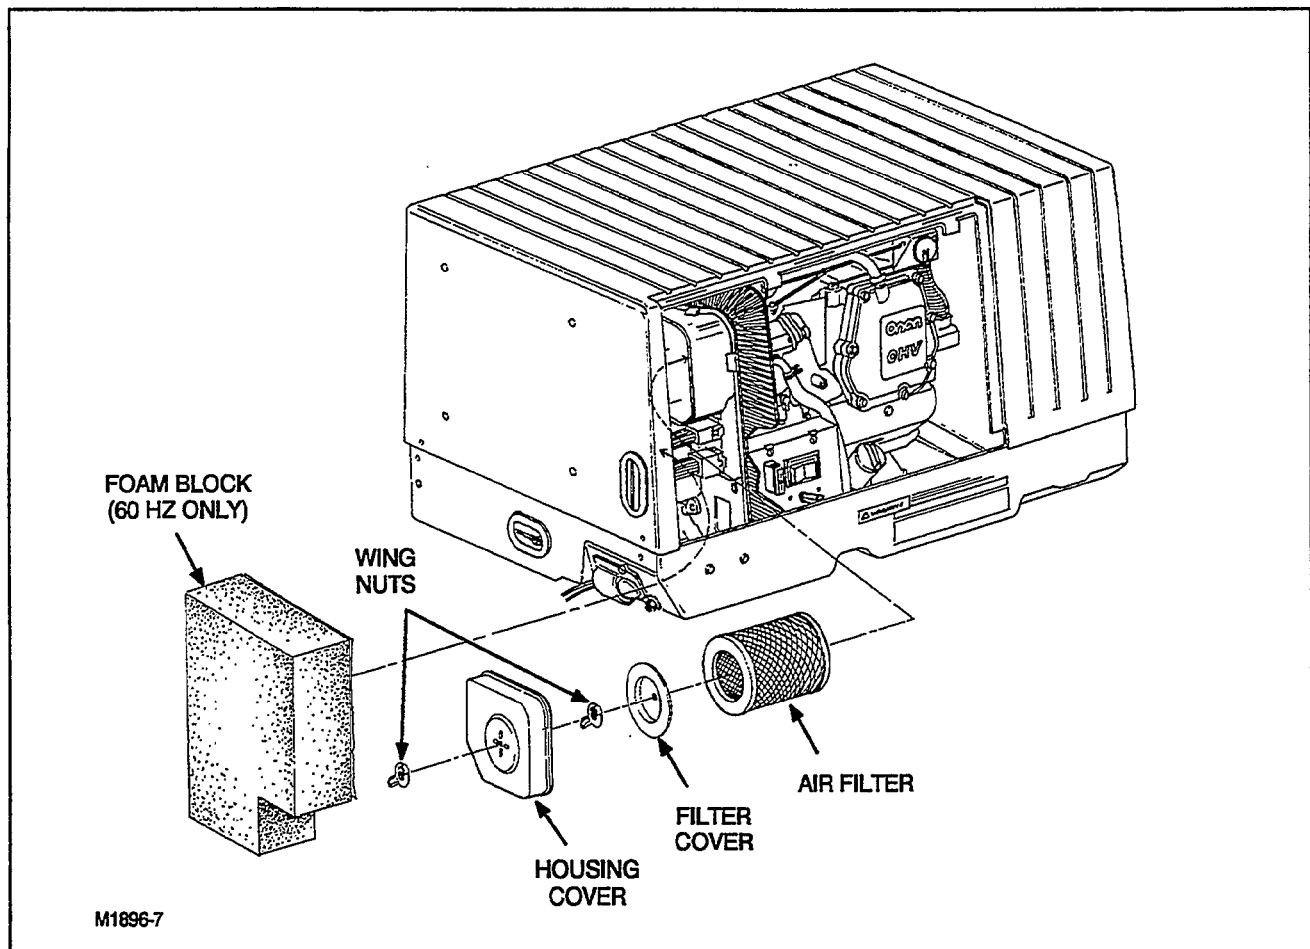

FIGURE 12. REPLACING THE AIR FILTER
1. Remove the foam block from the left side of the genset housing as shown in Figure 12 (used on 60 Hz models only).